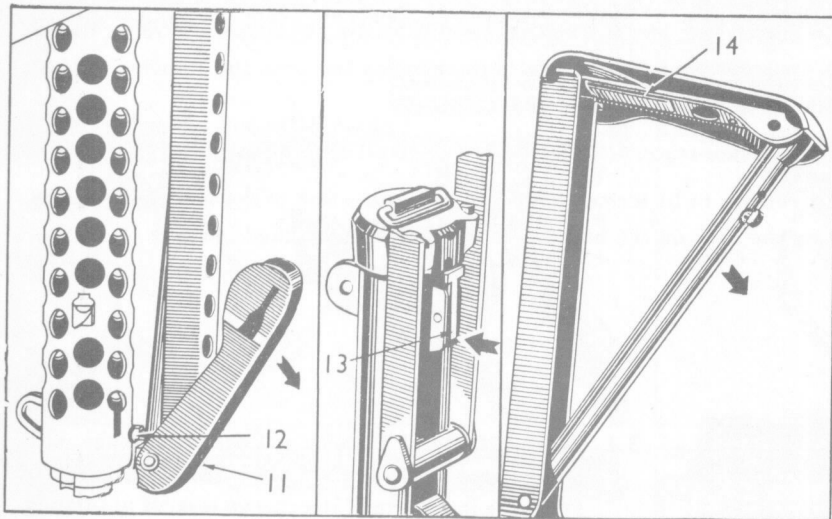

Fig. 8. To open butt
**6.0 TO OPEN BUTT** (Fig. 8). Hold the weapon with the left hand near the backsight with the barrel pointing towards the ground. Pull the butt plate (11) outwards with the right hand to release the butt catch (12) and swing the butt to the rear of the weapon. With the thumb of the left hand press the back cap catch (13) and snap the butt into engagement with the lugs on the back cap. Open the butt frame to form a triangle and the butt plate catch (14) will engage to lock.